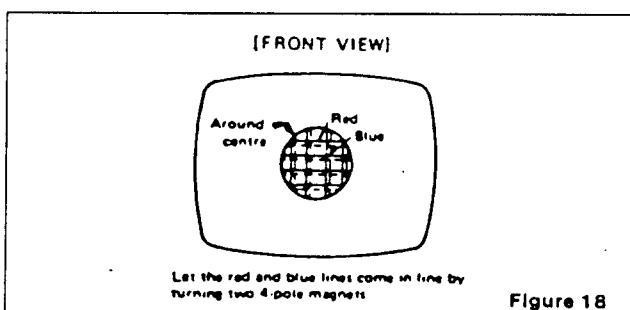

Figure 18
5. Rotate the 4-pole (middle) pair of magnets as a unit to minimize separation of the red and blue cross hatch lines around the center of the screen (Figure 18). Variation of the angle between the tabs adjusts convergence of red and blue. (Tilt yoke as required to converge red and blue at the edges as in 3 above).